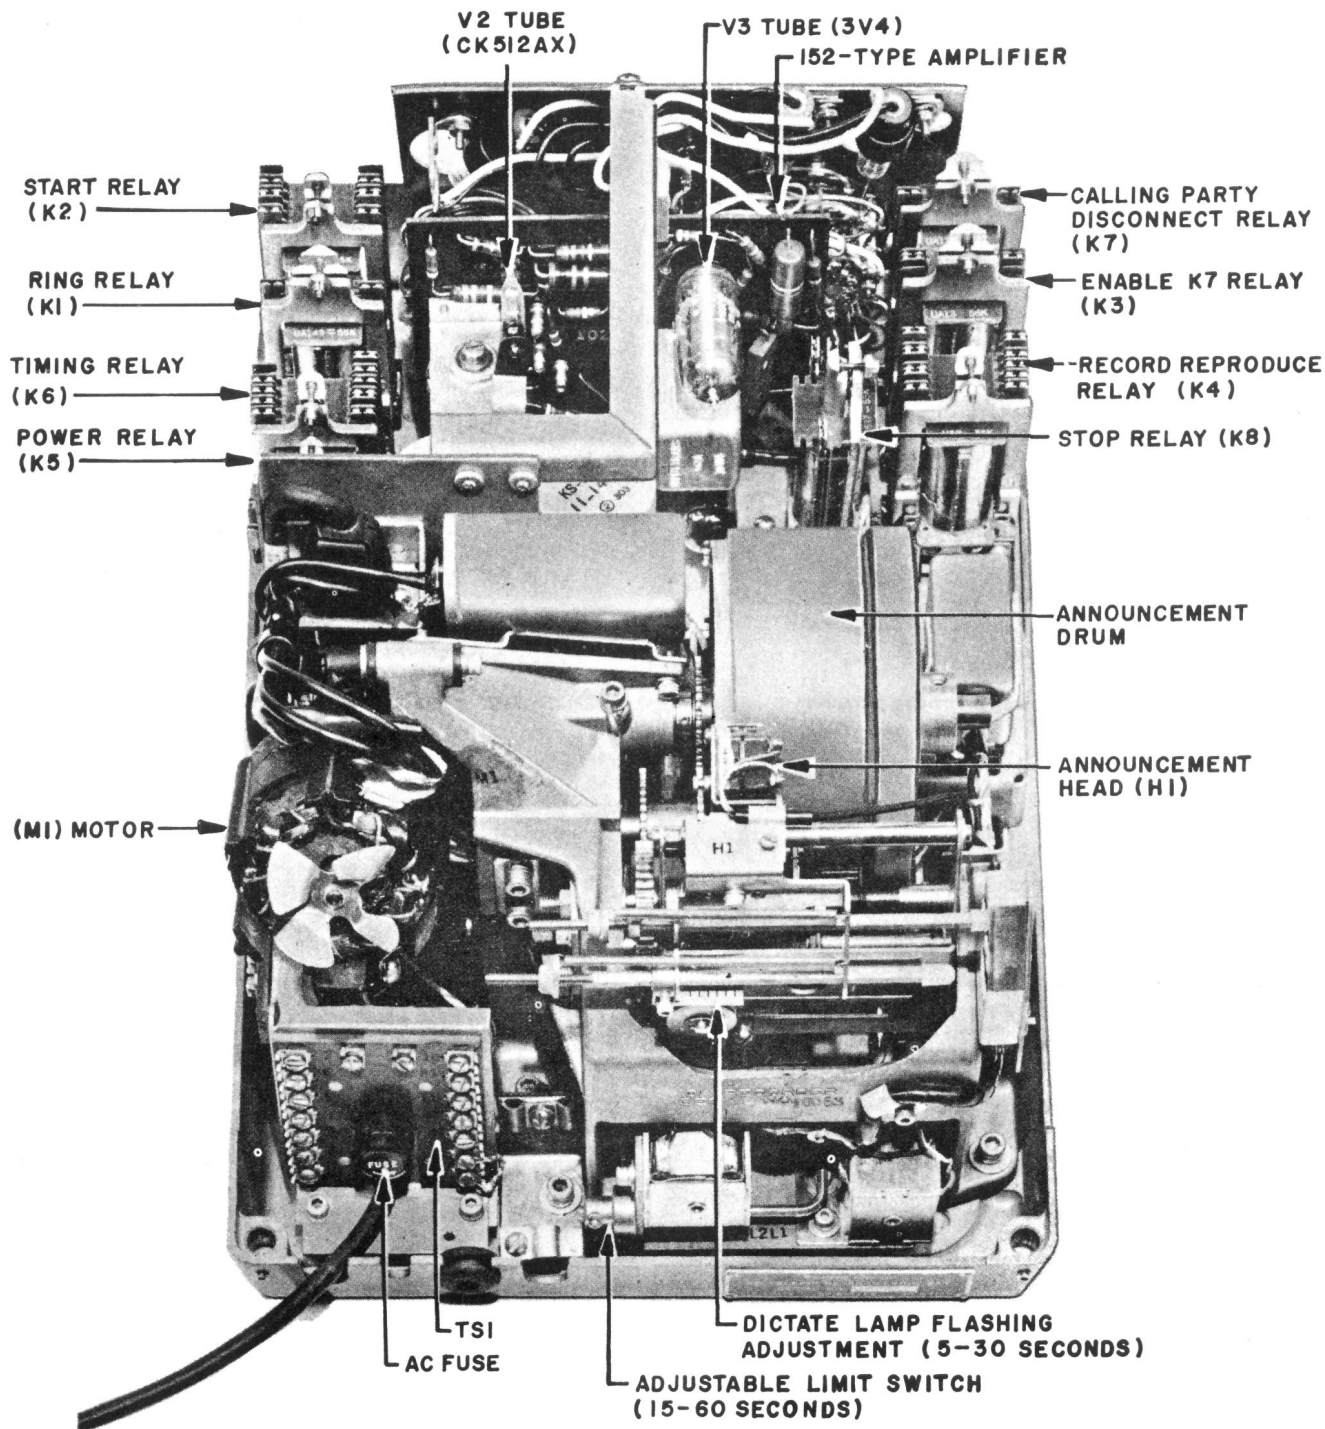

Fig. 11 — Assembled Parts of Telephone Answering Set
1.14 Fig. 11 identifies the assembled parts of the telephone answering set.